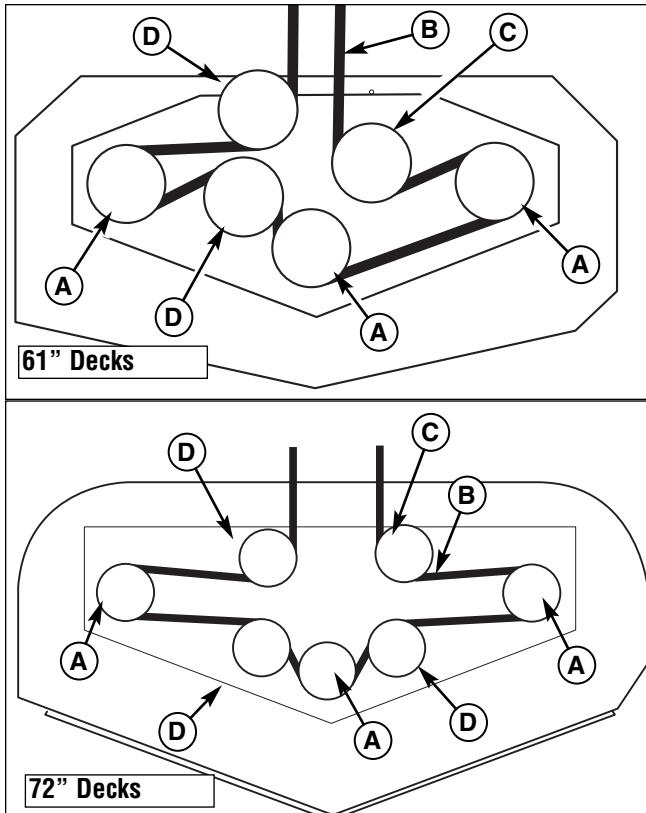

Figure 43. Mower PTO Belt Routing
- Slide the drive belt over the edge of the stationary idler pulley (B). Carefully release the tension on the breaker bar or the combination wrench.
- Remove the old belt and replace with a new one. Make sure the V-side of the belt runs in the pulley grooves (Figure 43).